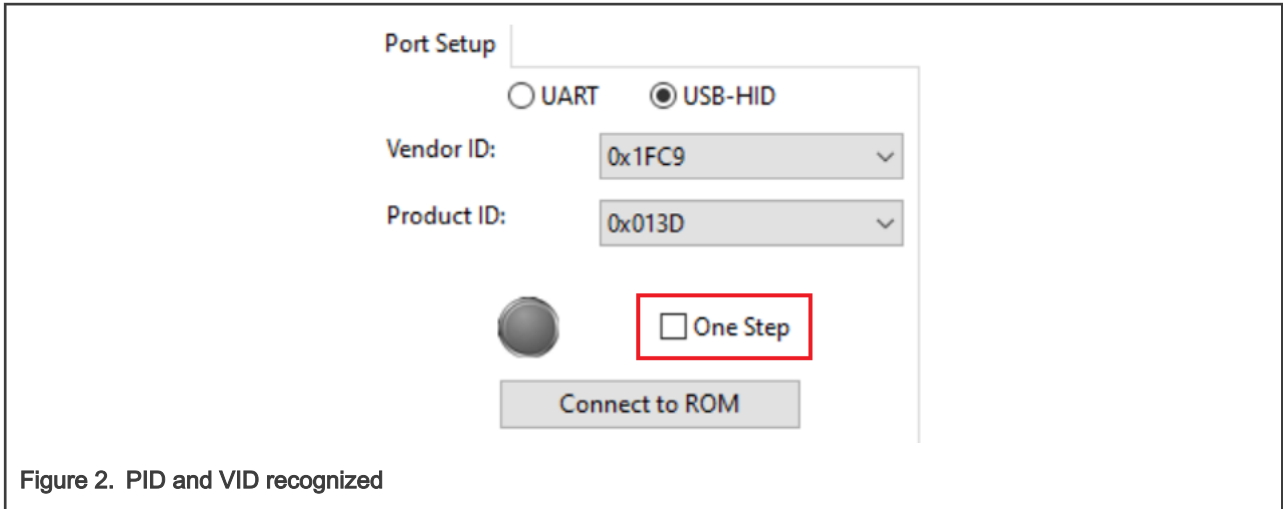
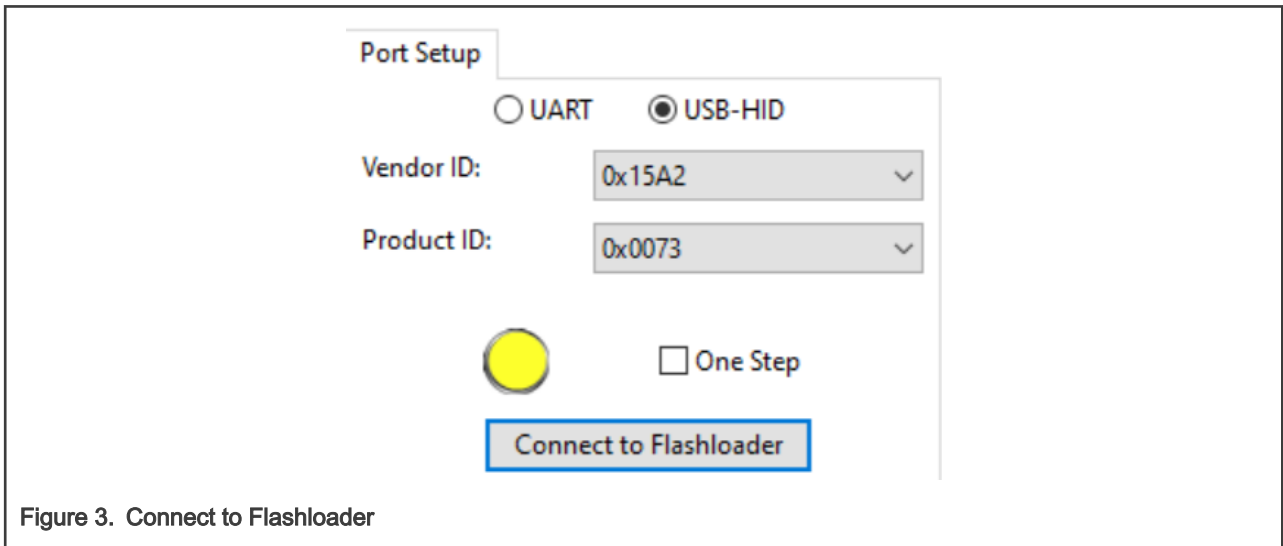
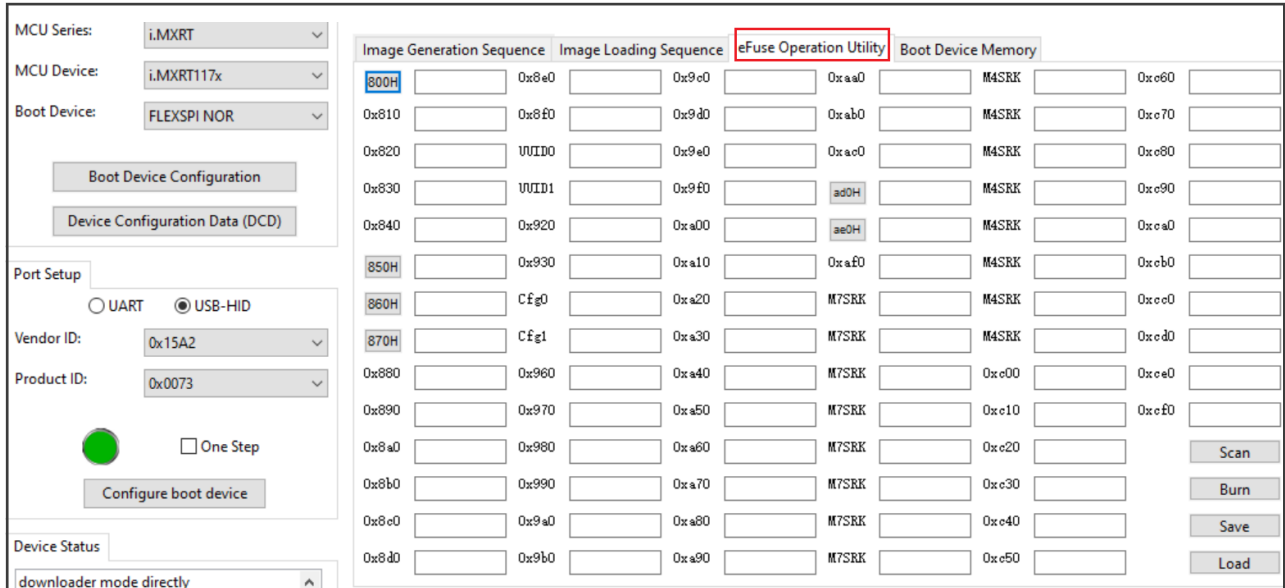

Figure 2. PID and VID recognized
Figure 3. Connect to Flashloader
Figure 4. eFuse Operation Utility panel
3. Uncheck **One Step** in Figure 2.
4. In Figure 2, click **Connect to ROM** and Figure 3 appears.
5. In Figure 3, click **Connect to Flashloader**, and go to the **eFuse Operation Utility** panel, as shown in Figure 4.
- In Figure 4, press the **Scan** button, and the fuse values are loaded, as shown in Figure 5. You can edit fuse values and press the **Burn** button to implement new fuse setting to chip.